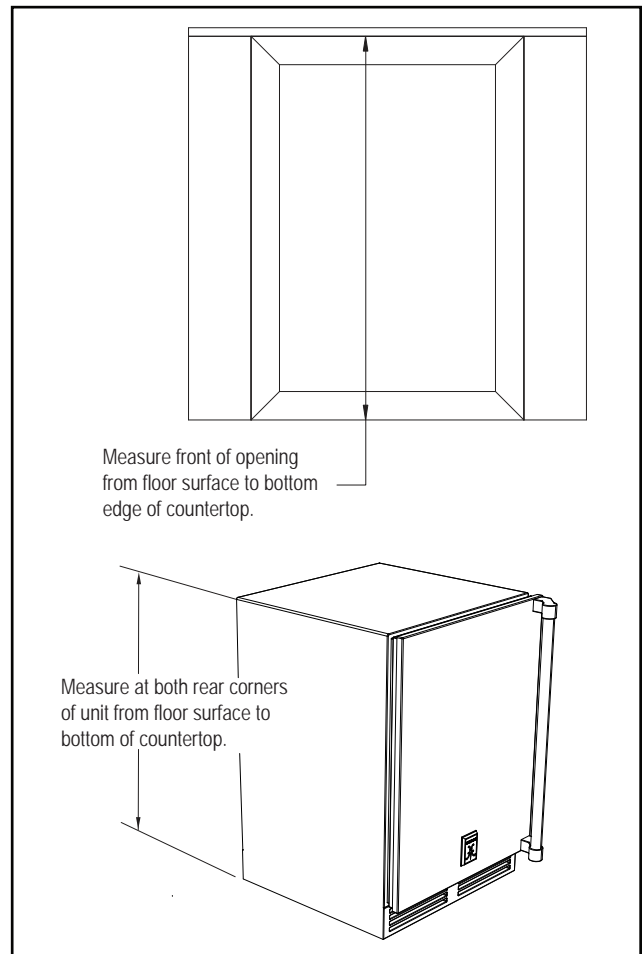

Figure 2. Leveling the Unit
2. With all surfaces in the installation opening square and level, refer to Figure 2 below and perform the following steps to level the unit: